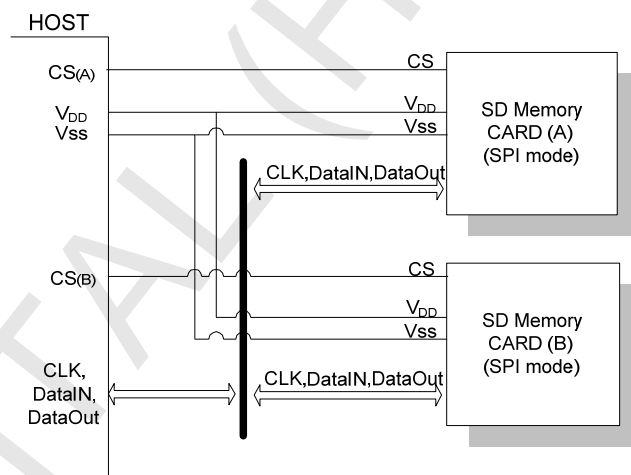

Figure 3-2: SD Memory Card System (SPI Mode) Bus Topology
The card identification and addressing methods are replaced by a hardware Chip Select (CS) signal. There are no broadcast commands. For every command, a card (slave) is selected by asserting (active low) the CS signal (see Figure 3-2).